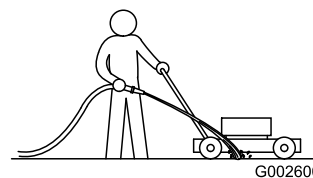

Figure 27
1. With the engine running on a flat paved surface, spray a stream of water in front of the **right** rear wheel (Figure 27).